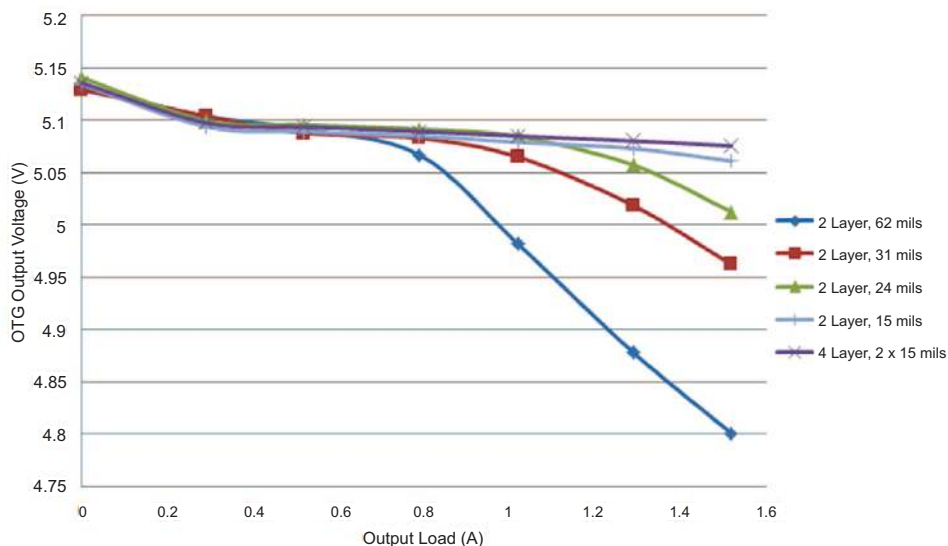

Figure 1. OTG Boost Mode 5-V Output Load Regulation Versus PCB Layer Thickness - Default Setting
6. PCB thickness affects the “On-the-GO” (OTG) Boost Output regulation at load currents over 0.75 A. An evaluation was performed using different thicknesses of PCBs with the Load Regulation results shown in Figure 1.